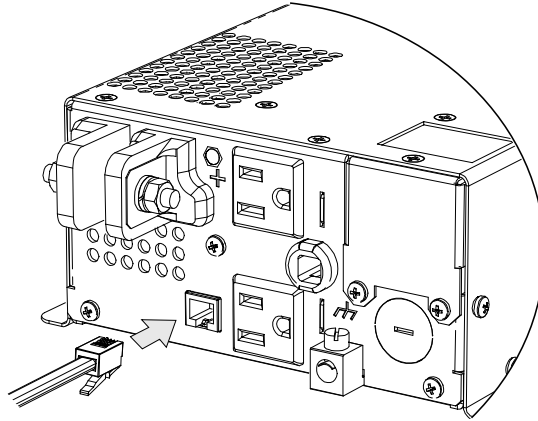

Figure 5 Connecting Cable to the RS400 (cord not shown for clarity)
4. Connect one end of the telephone cable to the back of the inverter as shown in Figure 5.